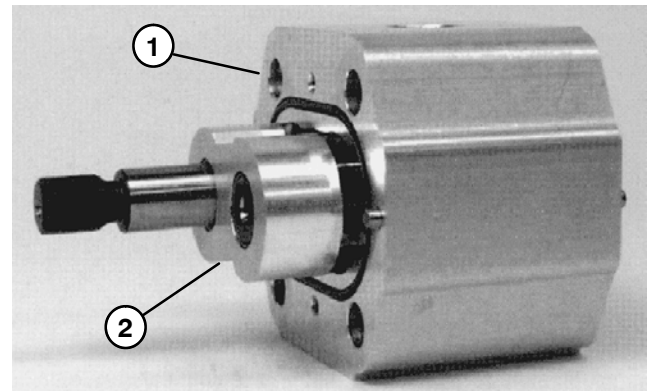

Figure 70
8. Place the motor on its side and push on the rear bearing block to remove the bearing block and gear set (Fig. 70).